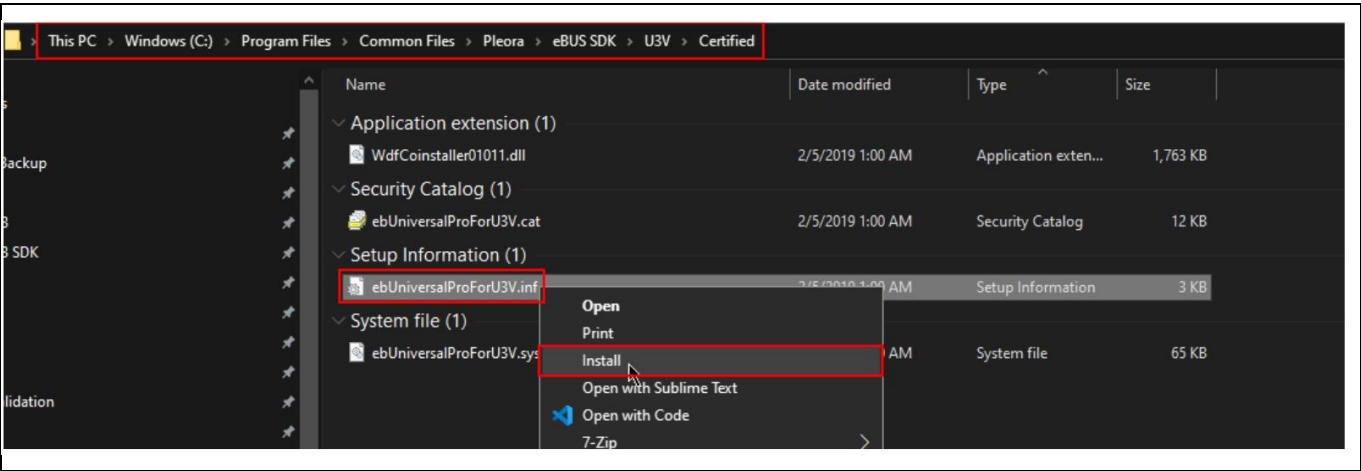

Figure 17 Installing driver for USB3 Vision player (eBUS player)
8. If FX3 is not detected, go to “C:\Program Files\Common Files\Pleora\ eBUS SDK\U3V\Certified” and install the U3V driver as shown in Figure 17.